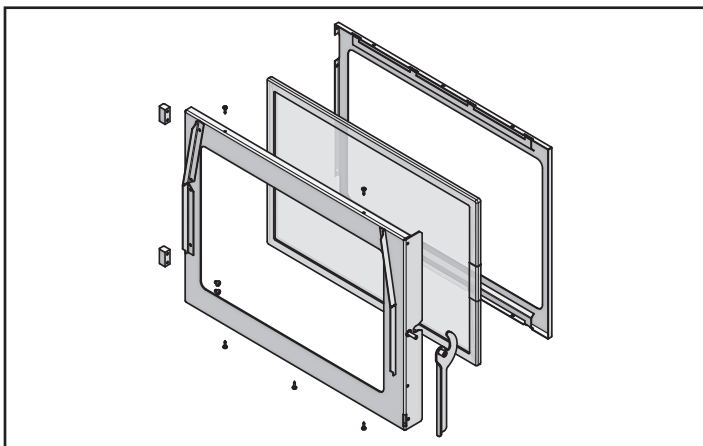

Figure 22.1
2. Using a Phillips head screw driver, remove 4 screws, 2 on the top and 2 on the bottom. Remove metal bracket and then remove the glass. **Figure 22.1**